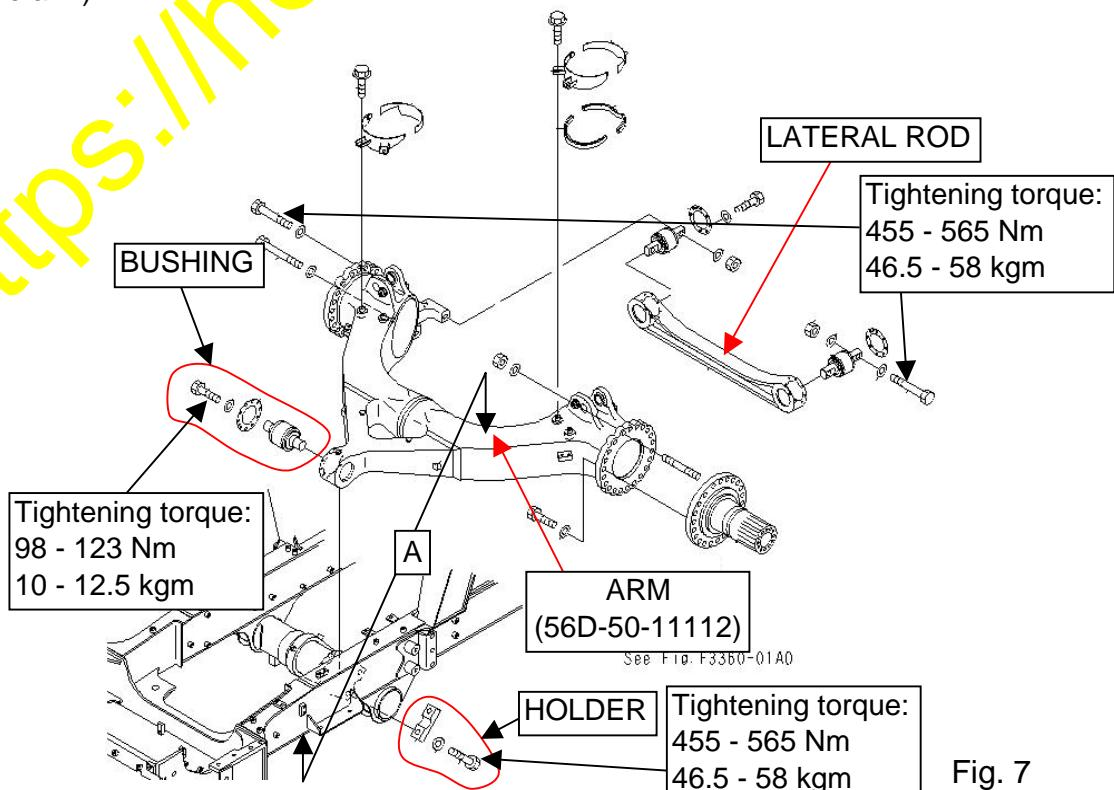

Fig. 7
- 1) Install the center bushing to the improved arm (56D-50-11112). (Refer to Fig. 7.)
- 2) Tighten the holder maintaining the arm (56D-50-11112) at the horizontal position (Dimension "A"). (Refer to Fig. 7.)
- 3) Install the lateral rod. (Refer to Fig. 7.)